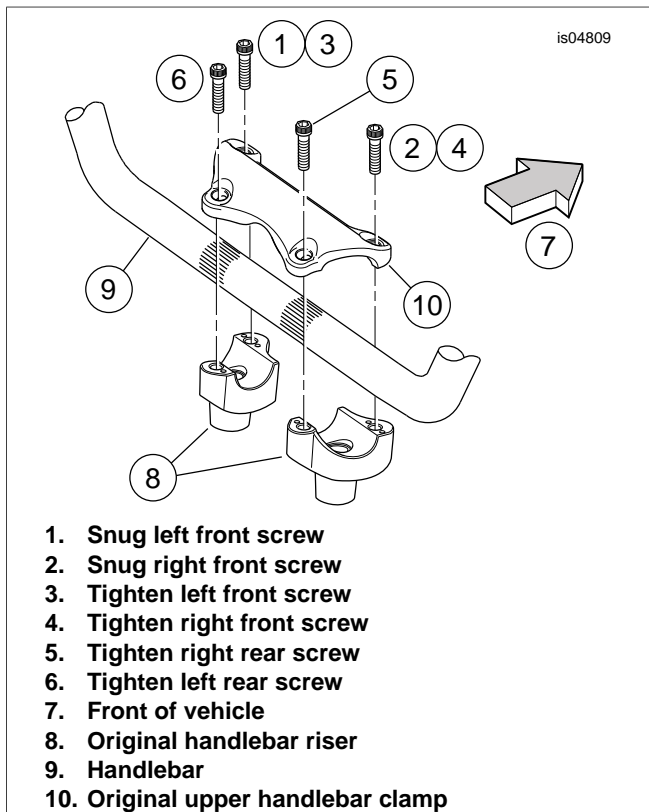

Figure 3. Handlebar Clamp Screw Tightening Sequence
- See Figure 3. Snug, but do not fully-tighten, only the front two upper clamp screws in the following sequence:
- First, snug the left front screw (1).
- Then, snug the right front screw (2).
13. See Figure 3. Tighten the upper handlebar clamp screws as follows:
- a. Tighten the left side front screw (1) until the left side of the handlebar clamp makes contact with the front of the left side handlebar riser.
- b. Tighten the right side front screw (2) until the right side of the handlebar clamp makes contact with the front of the right side handlebar riser.
- c. Tighten the left side front screw (3) to 16-20 ft-lbs (21.7-27.1 Nm).
- d. Tighten the right side front screw (4) to 16-20 ft-lbs (21.7-27.1 Nm).
- e. Tighten the right side rear screw (5) to 16-20 ft-lbs (21.7-27.1 Nm).
- f. Tighten the left side rear screw (6) to 16-20 ft-lbs (21.7-27.1 Nm).